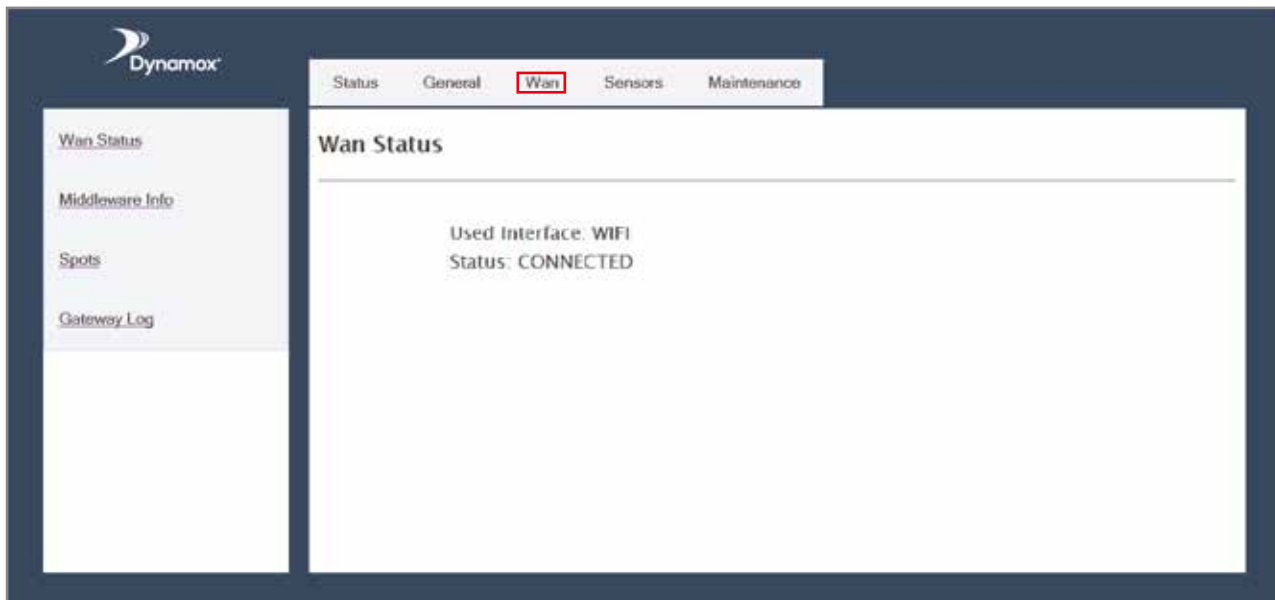

Figure 5 - DynaGateway home page
4. After logging in to the system, access the “Wan” tab on the top menu, according to figure 5.